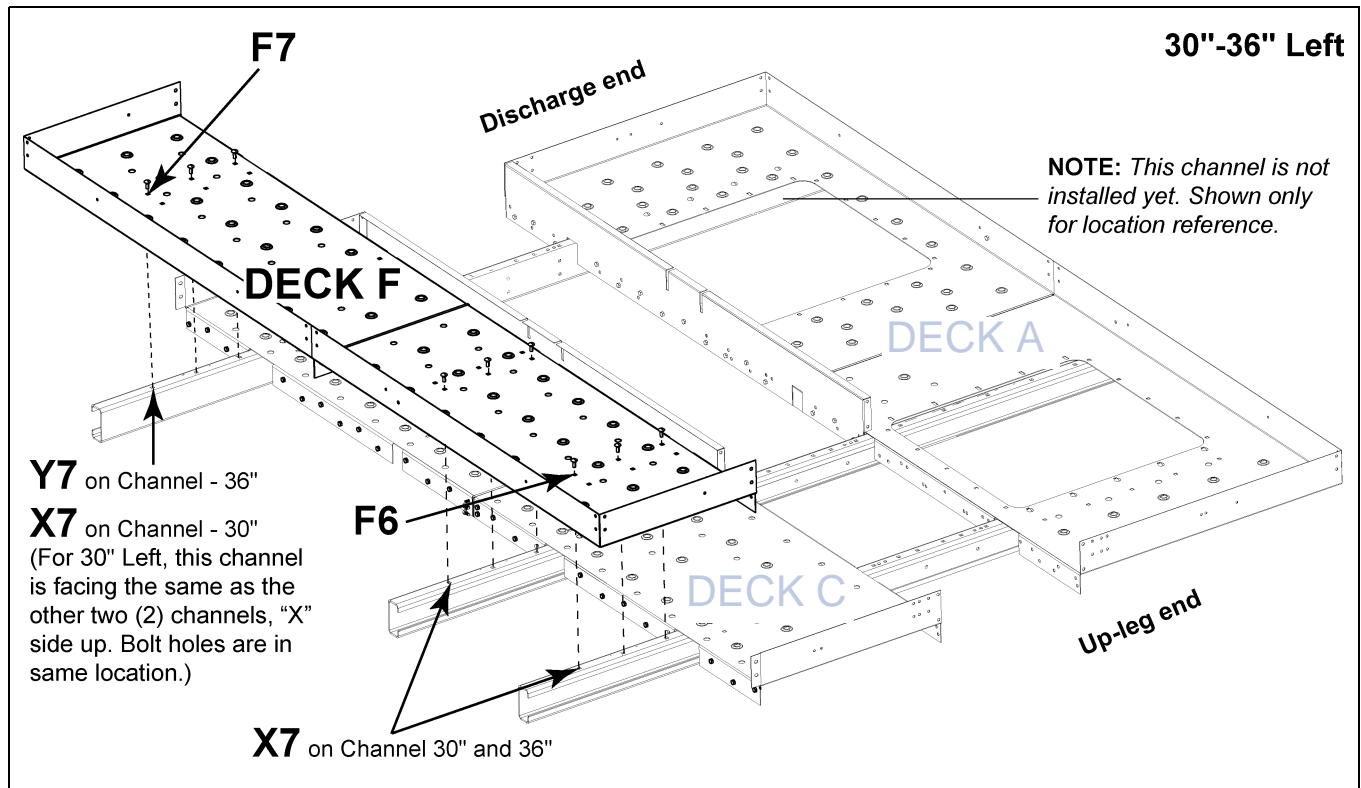

Figure 9L Deck F to Cross Deck Support Channel
1. Locate pre-assembled Deck F. This deck consists of two (2) planks.
2. Orient Deck F with hole **F7** at the discharge end of the lower head and **F6** at the up-leg end. (See Figure 9L.)
- b. F Deck hole **F1** to C deck hole **C7**. (See Figure 9L.)
(See Figure 9L on Page 71.)